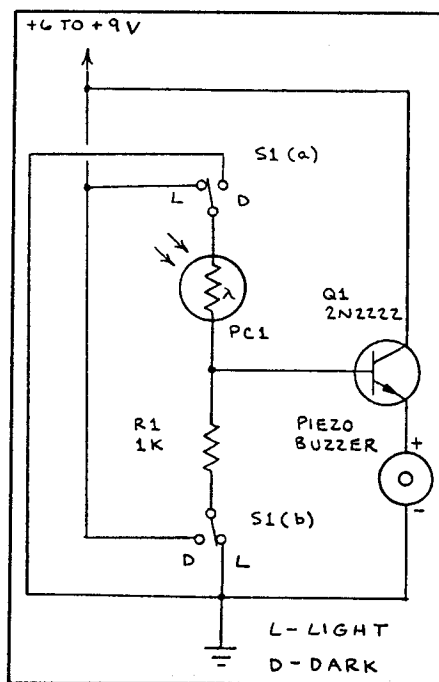

Fig. 12. A light/dark-activated relay.
• **Light/Dark-Activated Buzzer.** The circuit shown in Fig. 12 controls a piezoelectric buzzer. A dpdt switch is used for  $S1$ . When  $S1$  is in position "L" (light), the buzzer sounds when  $PC1$  is exposed to light. Setting  $S1$  to "D" (dark) causes the buzzer to sound in darkness.